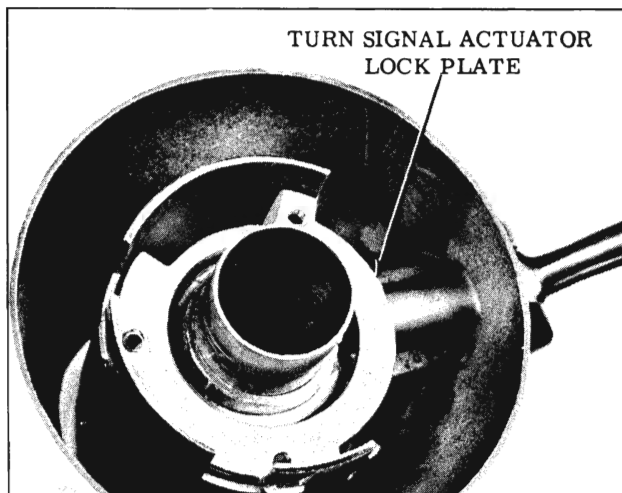

Fig. 4-299 Actuator Lock Plate Position
16. Position turn signal actuator lock plate over shift tube and inside the mast jacket. (Fig. 4-299) Position thrust washer on steering shaft and against tube.